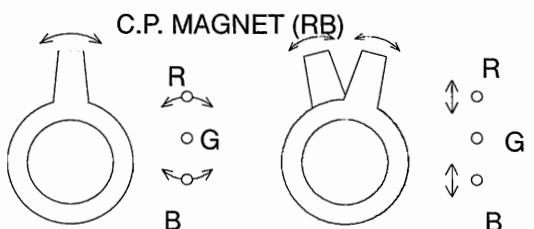

Fig. 6
2. Loosen the Ring Lock and align red with blue dots or Crosshatch at the center of the screen by rotating (RB) C.P. Magnets. (See Fig. 6)